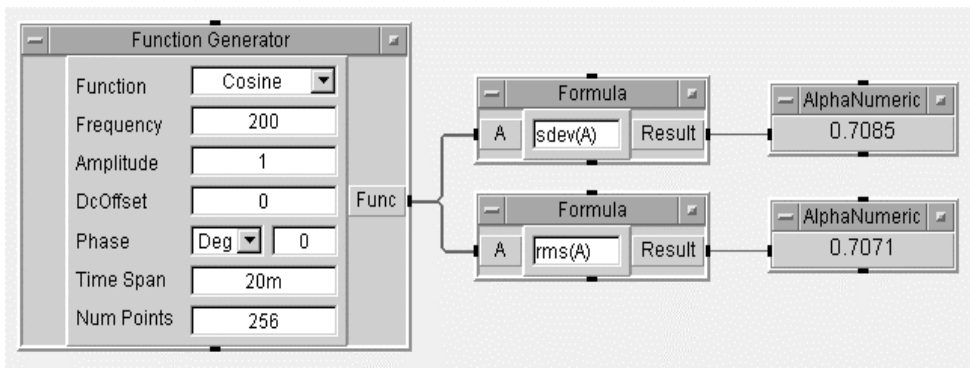

Figure 5.3. Lab 5.2 after running
6. Run this program; the results should match Figure 5.3.
Note: The use of one Formula Object to perform two calculations causing the program to run faster than the program shown in Figure 5.3.